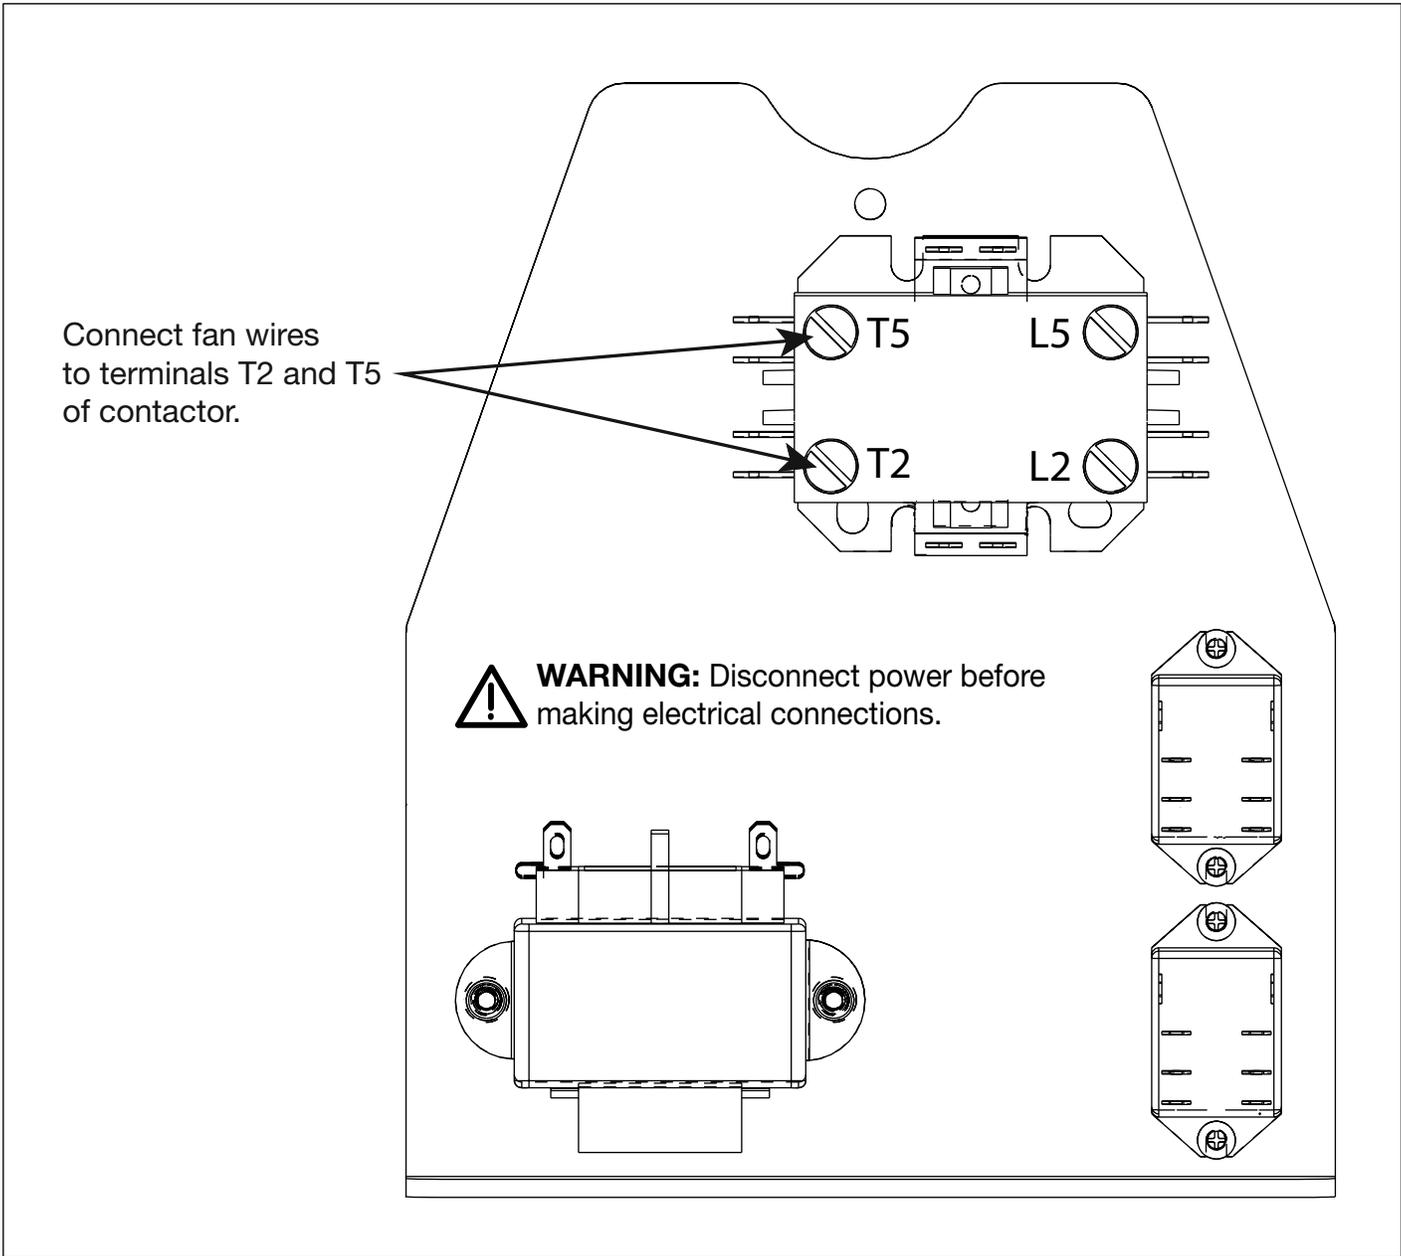

Figure 11, Connections to Contactor - 115V and 230V Fans (PT and BTW pumps only)
- b. Connect the fan wires to terminals T2 and T5 on the contactor. Polarity does not matter. See Figure 11.